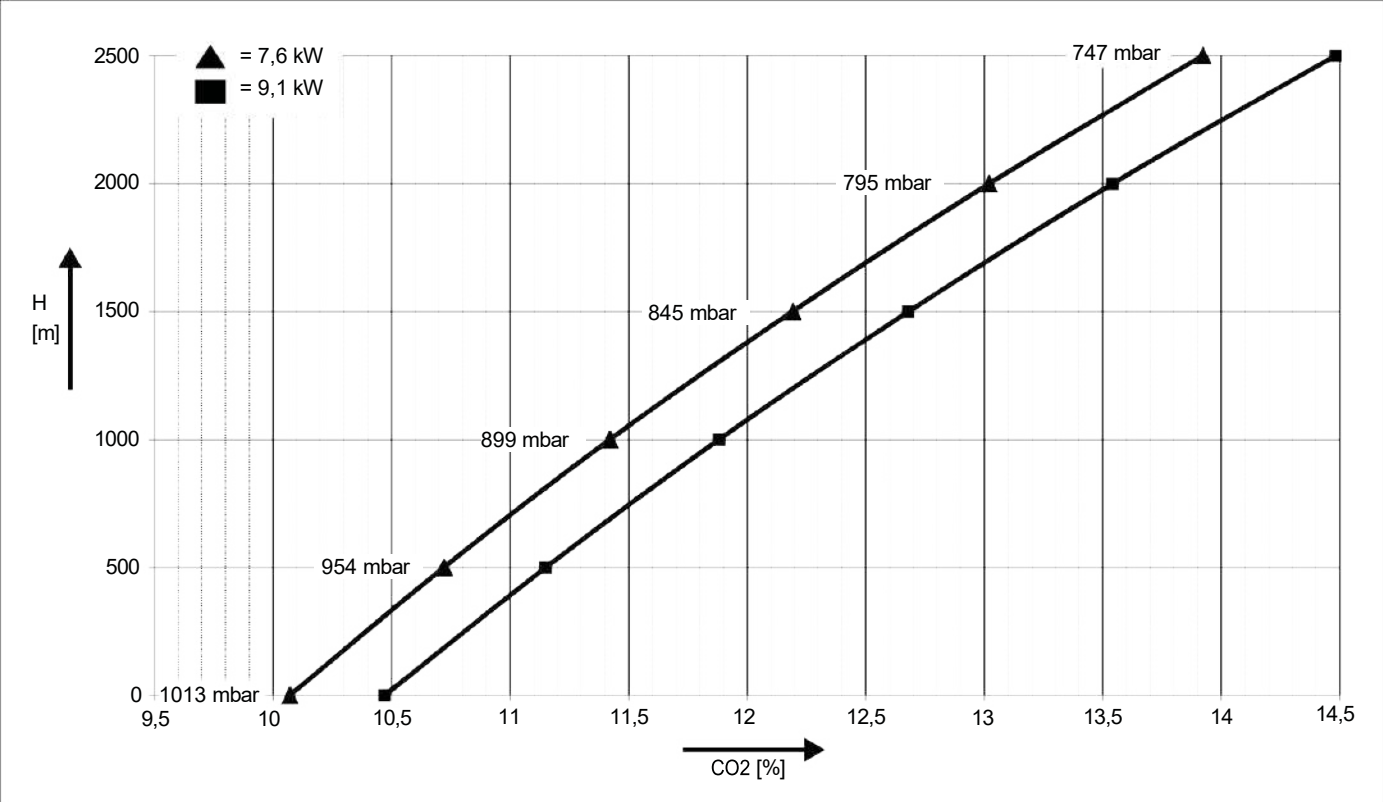

Fig. 601 CO₂ altitude correction
- Set the CO₂ value as shows in Fig. 601 on page 602.